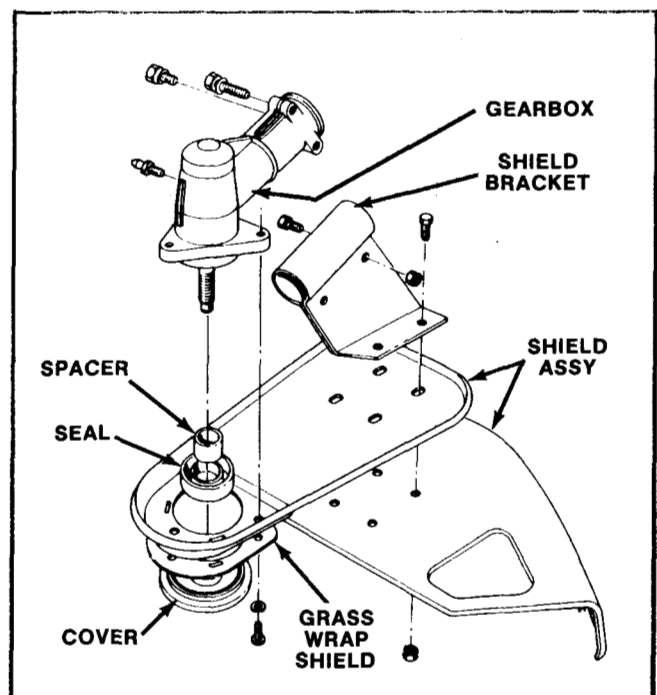

Figure 130
2. Slide the gearbox onto the drive tube. It may be necessary to rotate the cutter implement slightly to get the drive shaft to line up with the upper gear of the gearbox. Remove the locating screw and visually line up the locating screw hole and the hole in the drive tube. Insert the locating screw and tighten the single locating screw and two clamping screws. See Figure 130
3. Install the two portions of the shield as shown in Figure 130. Secure with the four machine screws and nylon lock nuts.
4. On units with serial numbers 6000001 and up, place the grass wrap shield around the drive shaft. See Figure 130.